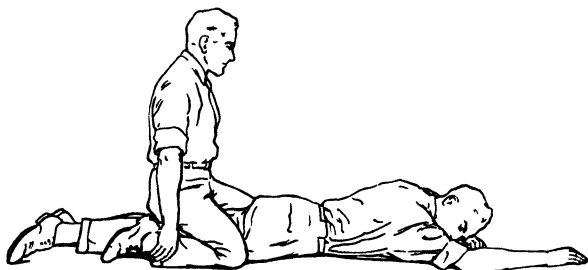

FIG. 30-3. Third position of operator giving artificial respiration.
4. Now immediately swing backward so as completely to remove the pressure (see Fig. 30-3).